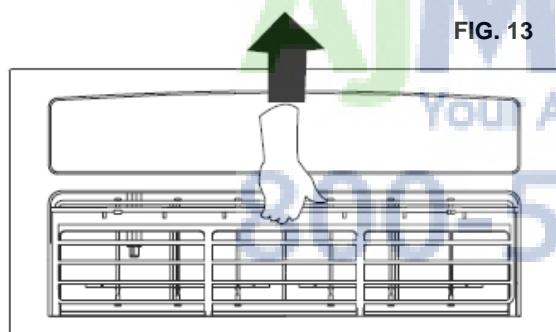

FIG. 13
1. Remove the filter grasping the center and pulling up and out (See FIG. 13)